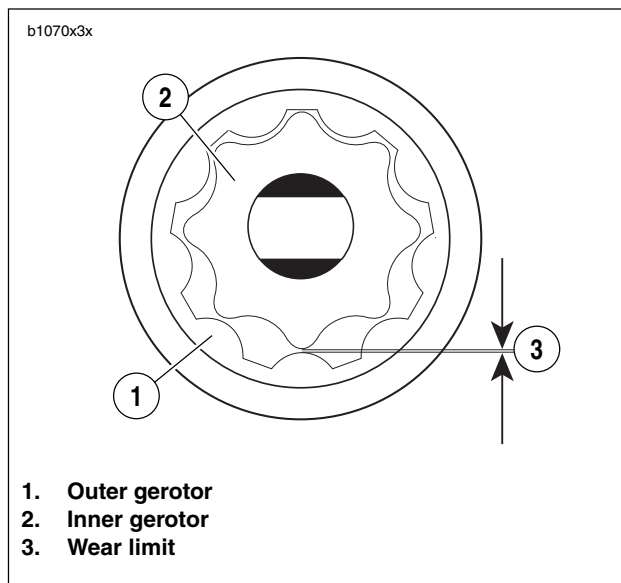

Figure 3-120. Gerotor Wear Limits
2. See Figure 3-120. Inspect both gerotor sets for wear.